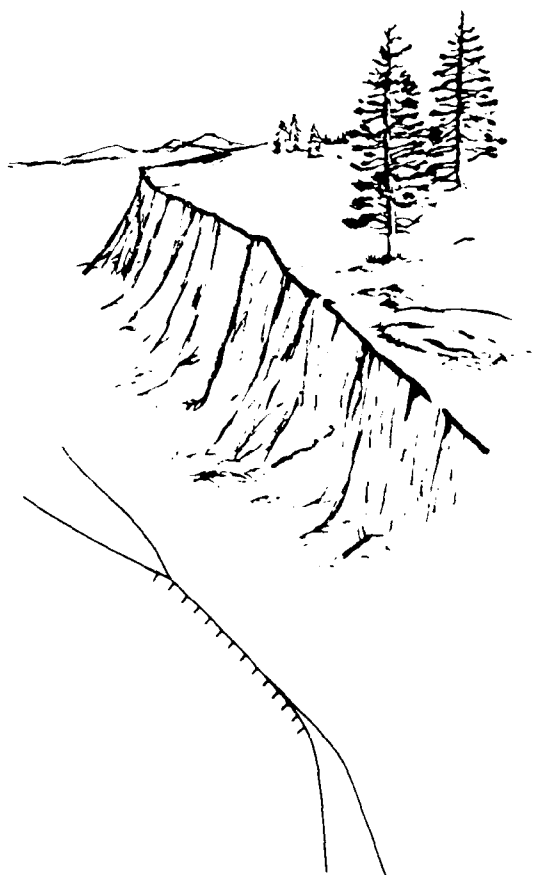

Figure 15-15.—Cliff.
7. **CLIFF:** A cliff is a vertical or near vertical slope (fig. 15-15). When a slope is so steep that it cannot be shown at the contour interval without the contours coming together, it is shown by a ticked "carrying" contour or contours. The ticks always point toward lower ground.